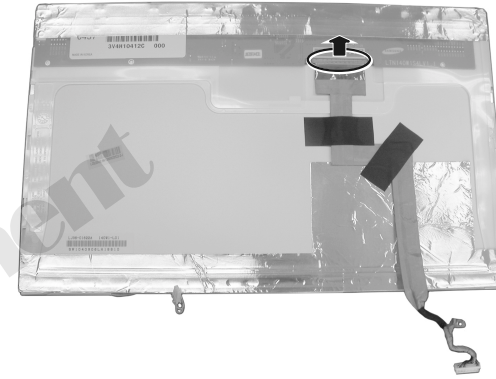

Figure 2-24 Free the LCD panel
6. Disconnect the cable to free the LCD panel. (Figure 2-24)